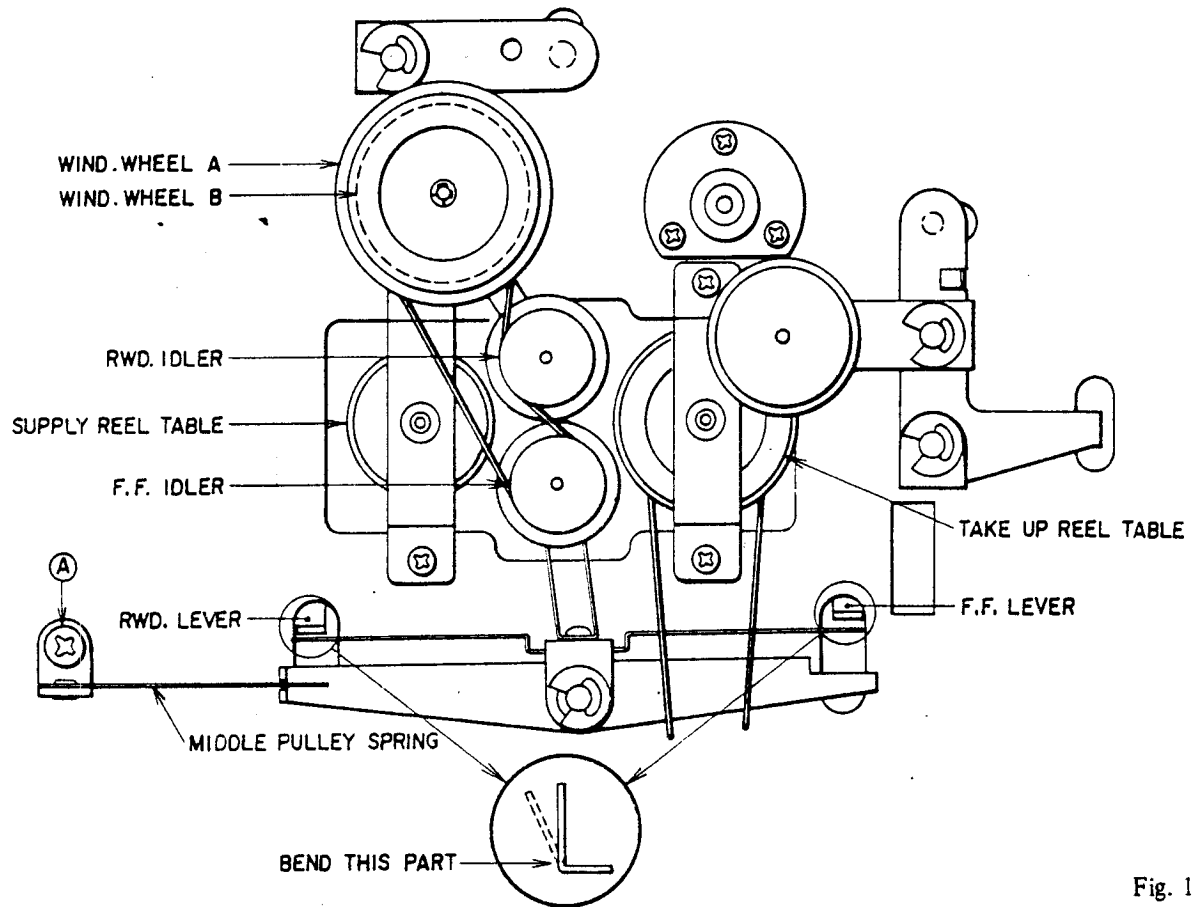

Fig. 10
#### 6. F. FWD AND RWD. IDLER BLOCK POSITION ADJUSTMENT (See Fig. 10)
- 2) In case Winding Wheel B fails to stop perfectly, because the Rewind Idler is not properly pressing against the supply reel table, adjust the bending of rewind lever extremity (see Fig. 10) so that the rewind lever applies stronger pressure to the supply reel table.